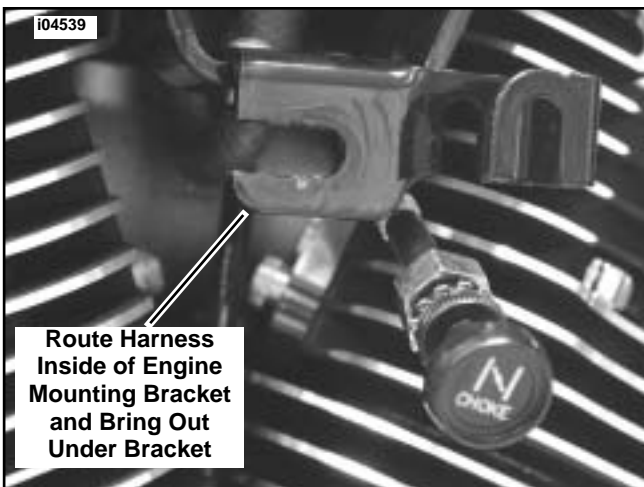

Figure 5. Route New Harness to Horn Mounting Location
10. See Figure 5. Continue to route terminal end of horn harness (black/yellow wire with insulated flag terminal) down between cylinders keeping to the inside of the top center engine mounting bracket. Bring harness out under engine mounting bracket on the left side.